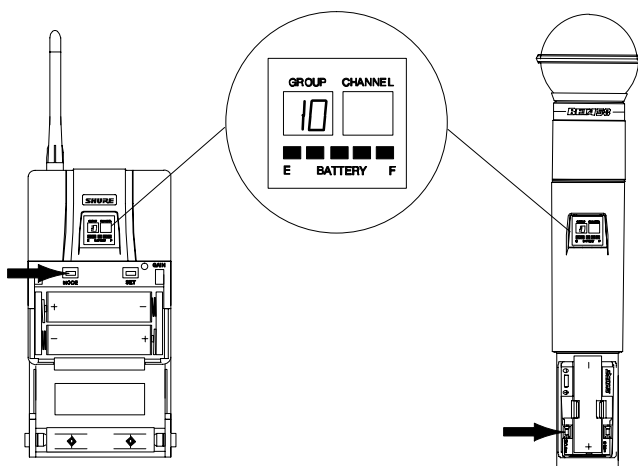

FIGURE 38
- Press and hold down the MODE button until only the Group number displays, as shown in Figure 38.